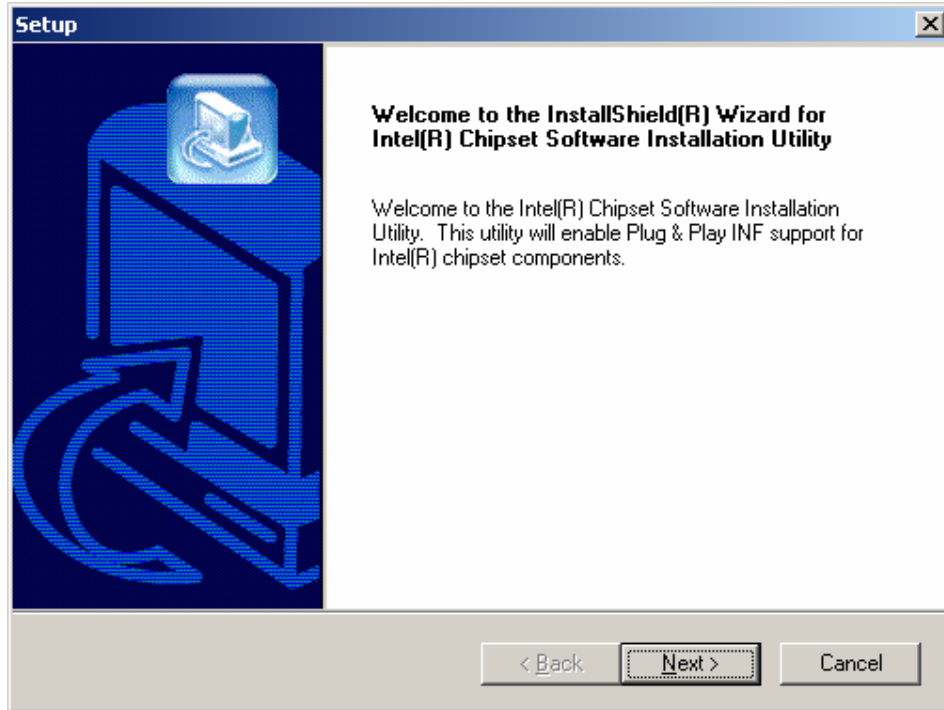

Figure 6-10: Chipset Software Installation Utility Welcome Screen
Step 3: The InstallShield Wizard Welcome screen appears (Figure 6-10).